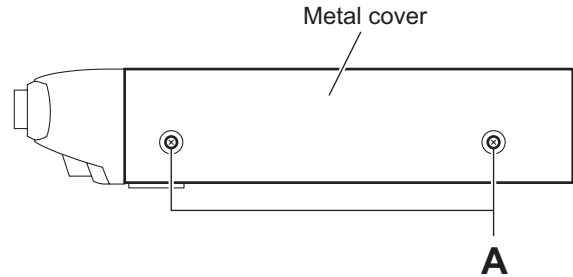

Fig.1
3.1.1 Removing the metal cover (See Figs. 1 to 4)
- (1) From the both sides of the main body, remove the four screws **A** attaching the metal cover. (See Figs. 1 and 2.)